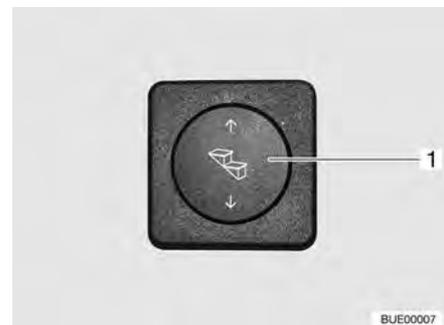

Fig. 10 Operating switch entrance step
- Press the rocker switch (Fig. 10,1) down and hold it pressed (at least 3 seconds) until the entrance step has extended completely.
- Press the rocker switch (Fig. 10,1) up until the entrance step has retracted completely.